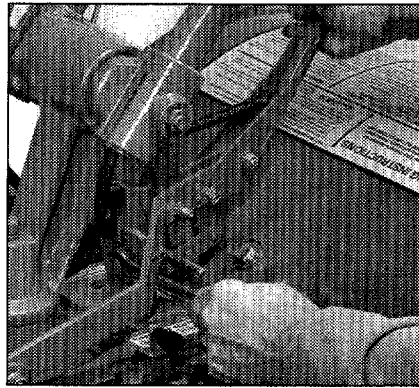

Figure 5-16: Hold Drive Lever while loosening bolt. Push lever down to tighten belt; pull up to loosen belt.
5. Use one hand to hold the drive lever in **FORWARD** while using a 9/16" wrench to loosen (don't remove) the bolt at the back of the belt adjustment block (Figure 5-16). The adjustment block should be free to move either up or down.